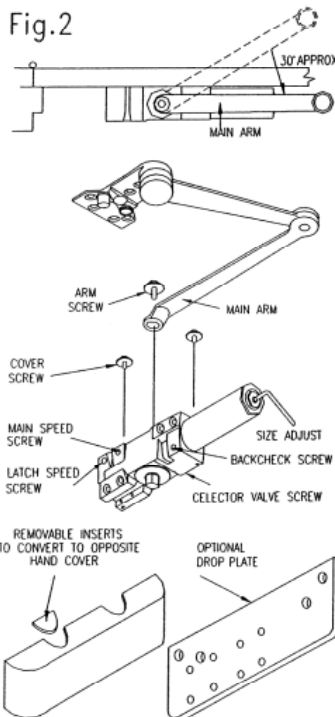

Fig. 2
3. Attach complete arm to closer, as shown at left. Arm will be at about a 30° angle to closer body. Fasten with arm shaft screw. The arm will appear to be in an incorrect position. This is to accommodate the pre-load required for parallel arm mounted door closers. See Fig. 2.